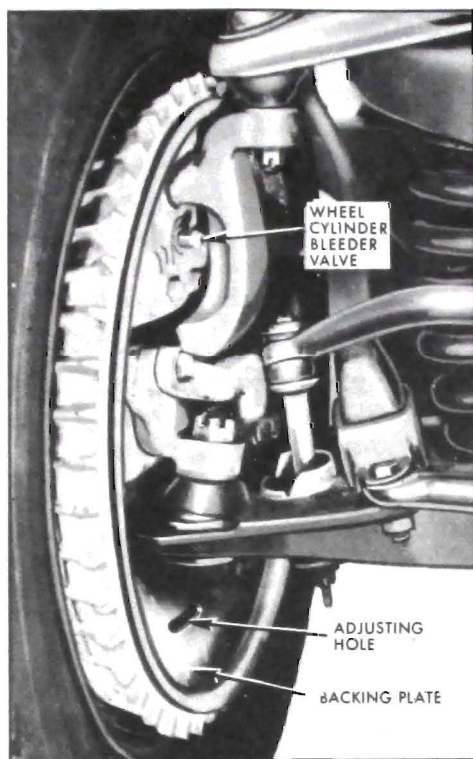

Figure 9-10—Right Wheel and Brake Assembly
2. Install Wrench J-21472 on bleeder valve. Slip a brake bleeder tube over ball of wheel cylinder bleeder valve. Place lower end of bleeder tube in a clean glass jar that is partially filled with clean brake fluid. Position end of tube so that it will remain submerged under fluid during bleeding operation. Unscrew bleeder valve 3/4 of a turn. See Figure 9-10.
3. Install Wrench J-21472 on bleeder valve. Slip a brake bleeder tube over ball of wheel cylinder bleeder valve. Place lower end of bleeder tube in a clean glass jar. Unscrew bleeder valve 3/4 of a turn. See Figure 9-10.